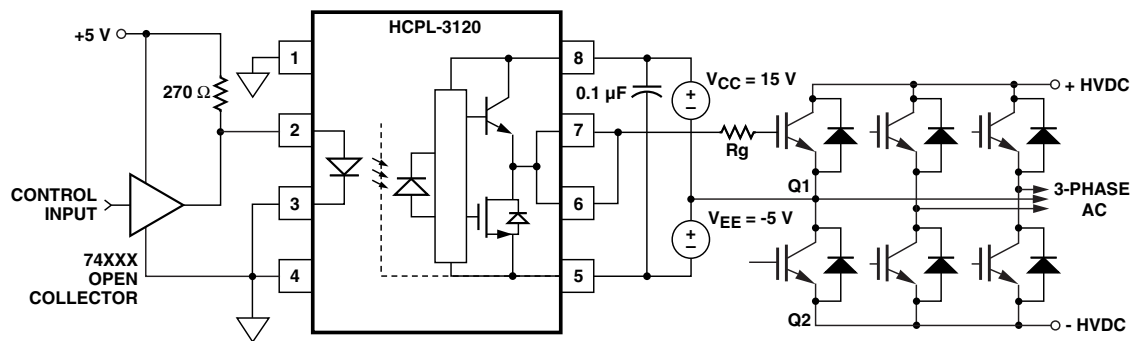

Figure 26. HCPL-3120 typical application circuit with negative IGBT gate drive.
Step 1: Calculate R_g Minimum from the I_{OL} Peak Specification. The IGBT and R_g in Figure 26 can be analyzed as a simple RC circuit with a voltage supplied by the HCPL-3120.
For the circuit in Figure 26 with I_F (worst case) = 16mA, $R_g = 8\Omega$, Max Duty Cycle = 80%, $Q_g = 500$ nC, $f = 20$ kHz and $T_A \text{ max} = 85^\circ\text{C}$: